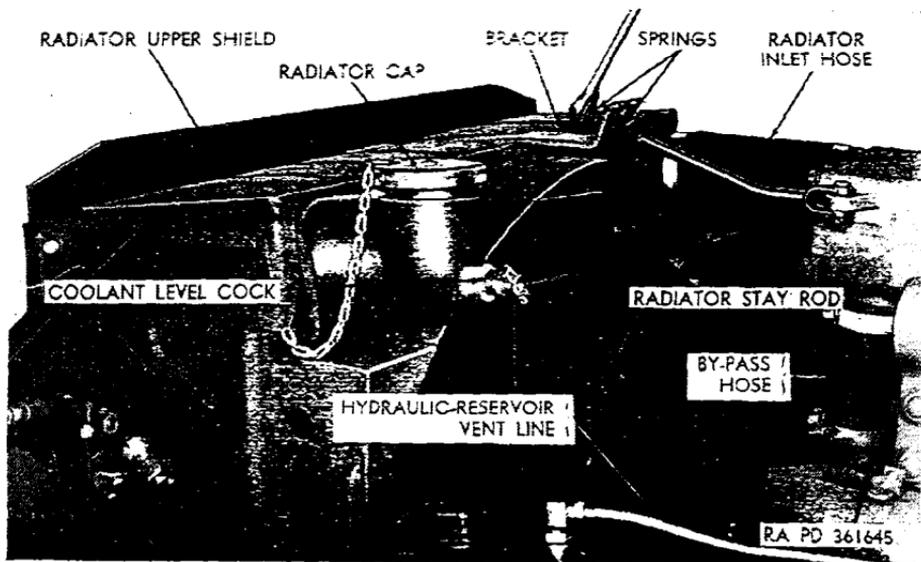

Figure 162. Left rear view of upper section of radiator.
b. Radiator. The radiator (fig. 130), which is vertically mounted forward of the engine, consists of a fan-and-tube-type core with drain cock and a tank with pressure-type filler cap (fig. 162), coolant level cock, and overflow tube. The bottom of the radiator is secured to the engine front mounting support (fig. 130) by two bolts and nuts, and the top of the radiator is secured in the vertical position by a stay rod (fig. 162) connected to the radiator and the front of the thermostat housing.
b. Air Suction Test. Bring level of coolant to level cock (fig. 162) of radiator. Drain out three pints of coolant to prevent overflow during test. Be sure radiator cap is in good condition and will make an air-tight seal. Attach a length of rubber tubing to the lower end of overflow tube (fig. 130), making sure that this connection is air tight. Run engine until temperature gage stops rising and remains stationary. Without changing engine speed, place end of rubber tubing in a bottle of water. Be sure there are no kinks or sharp bends in the tubing to restrict air flow. Watch for bubbles in the water. Bubbles indicate that air is being drawn into the cooling system. Correct condition by tightening cylinder-head bolts, water pump mounting bolts, hose clamps, and all fittings. Examine all hose carefully, and if cracked, swollen, or deteriorated in any way, replace hose.
Caution: Do not pour cold water into cooling system when engine temperature is above 200° F. Also, cold water poured into cooling system, regardless of engine temperature, will close thermostats and not allow engine water jackets and passages to completely fill. Whenever filling system with cold water, always run engine until normal operating temperature is reached (thermostats open), then add water until coolant reaches coolant level cock (fig. 162).
- (1) *Drain system.* Run engine at fast idle until normal engine temperature (at least 165° F) is reached to stir up any loose rust, scale, et cetera. Stop engine. Remove radiator cap (fig. 162), open radiator drain cock (fig. 130) and crankcase drain cock (fig. 131), and allow cooling system to drain.
- (6) *Fill system.* Close radiator and crankcase drain cocks; then fill system to suit climatic conditions as follows: if above 32° F., almost fill the system with clean fresh water (soft if possible) and add a corrosion inhibitor; then fill with water until coolant level is evident at level cock (fig. 162). If there is a possibility that climate below 32° F. will be encountered, fill system about one-third full, add antifreeze enough for the lowest expected temperature (table V, par. 328); then fill until coolant is evident at level cock. Install radiator cap, start engine, and run it at a fast idle until temperature gage shows normal operating temperature; then stop engine and check coolant level, adding water as necessary.
- (7) *Rust preventives.* The cooling system must be free of rust and scale to maintain efficiency of the system. Use of inhibitors or rust preventives reduces or prevents corrosion of metals and prevents formation of scale. Inhibitors are not cleaners and do not remove rust or scale already formed. Treating the cooling system with an inhibitor consists of adding an inhibitor to the coolant. The inhibitor should be re-
- (1) Remove brush guard (par. 114*c*(2)).
- (2) Drain cooling system (par. 134*d*).
- (3) Loosen self-locking nut at front end of radiator stay rod (fig. 162), and pull front end of stay rod upward and remove from slotted bracket on top of radiator.
- (4) Loosen front clamp on radiator inlet hose (fig. 162).
- (6) Loosen two nuts and bolts securing radiator upper shield (fig. 162) to the left and right headlight support brackets, and pull upper shield forward and remove from brackets.
- (4) Slide rear end of radiator-outlet-hose elbow over end of water-pump water inlet, and tighten hose clamp.
- (5) Spread the two washers between the springs (fig. 162) on front end of radiator stay rod and slide rod into slot in bracket at top of radiator. Tighten self-locking nut on end of stay rod but do not tighten enough to completely compress springs.
- (6) Slide slotted ends of radiator upper shield (fig. 162) under head of bolt and lockwasher on left and right headlight support brackets, and tighten nuts and bolts.
- (7) Slide front end of radiator inlet hose (fig. 162) on radiator inlet, and tighten hose clamp.
- (8) Install brush guard (par. 115f(2)).
- (9) Fill cooling system (par. 134d(6)).
- (e) Loosen front hose clamp on radiator inlet hose (fig. 162) and tilt upper end of radiator forward.
- (c) Slide front end of radiator inlet hose (fig. 162) on radiator inlet, and tighten hose clamp.